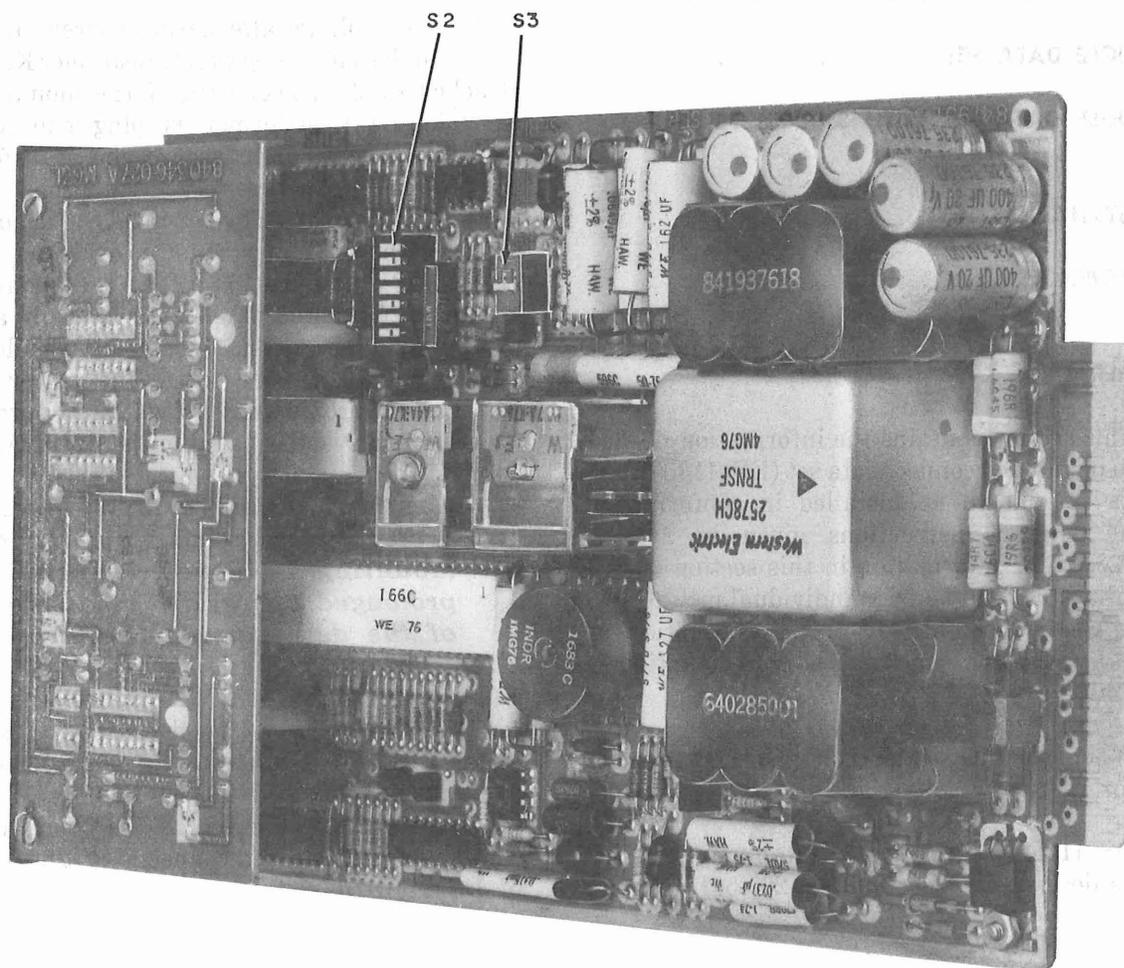

Fig. 1—DS 113D-L1
2.01 DS 113D-L1 must be removed from the mounting to be accessible (Fig. 1).